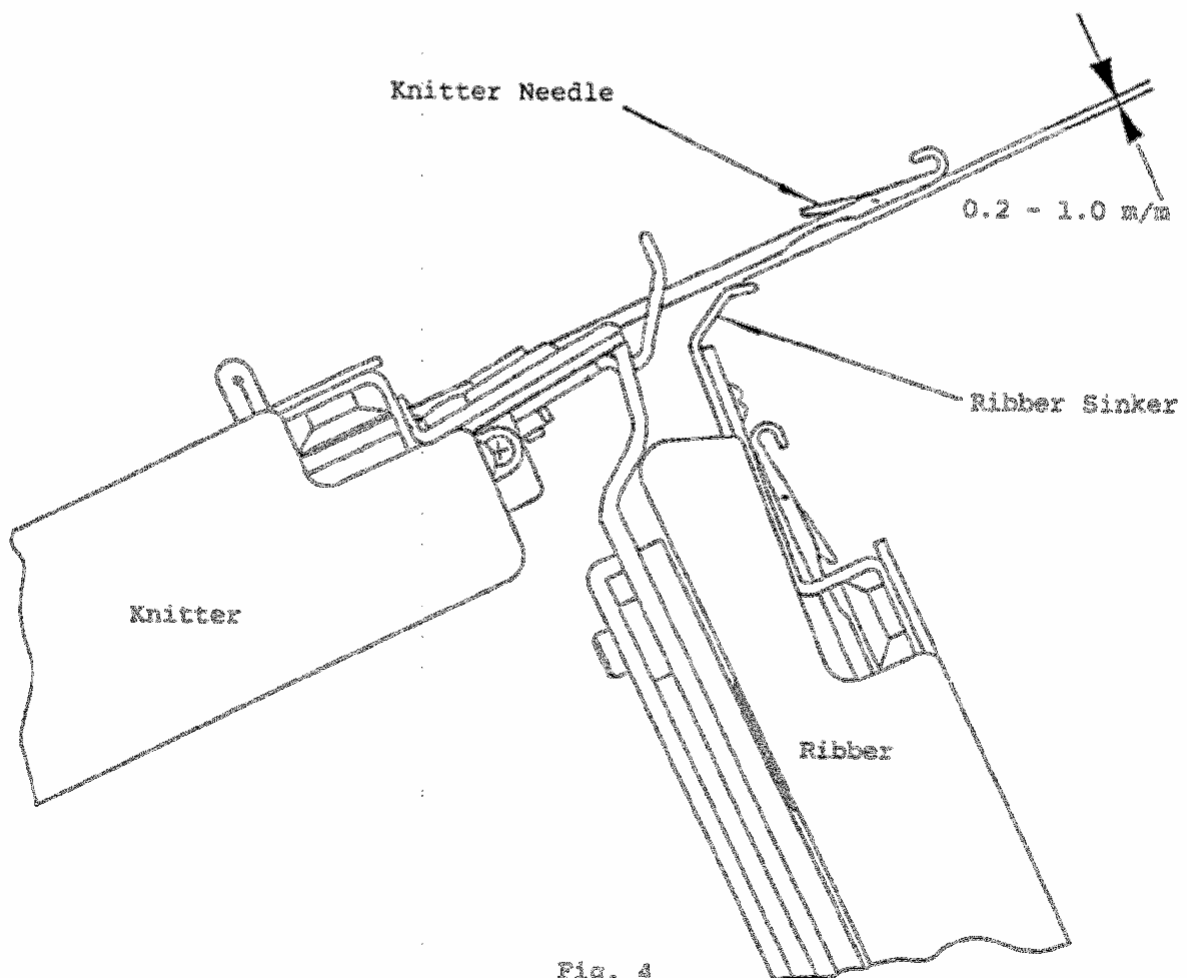

Fig. 4
- d) Push up five needles on both edges of the Knitter between 91 and 95 into D position. Measure using a feeler gauge the clearance between the Knitter Needle and the Ribber Sinker as shown in Fig. 4. The clearance should be within 0.2 - 1.0mm.